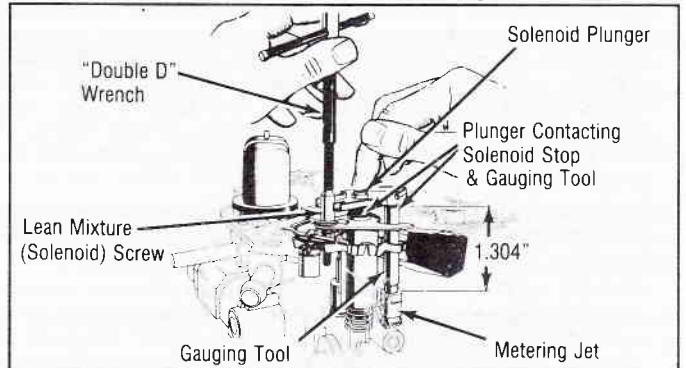

Fig. 3 Adjusting Lean Mixture Screw
4. Install mixture control solenoid gauging tool over throttle side metering jet rod guide. Temporarily install solenoid plunger. See Fig. 3.
5. Hold solenoid plunger against solenoid stop. Using a "double D" wrench, slowly turn lean mixture screw clockwise until solenoid plunger just contacts gauging tool. See Fig. 3.